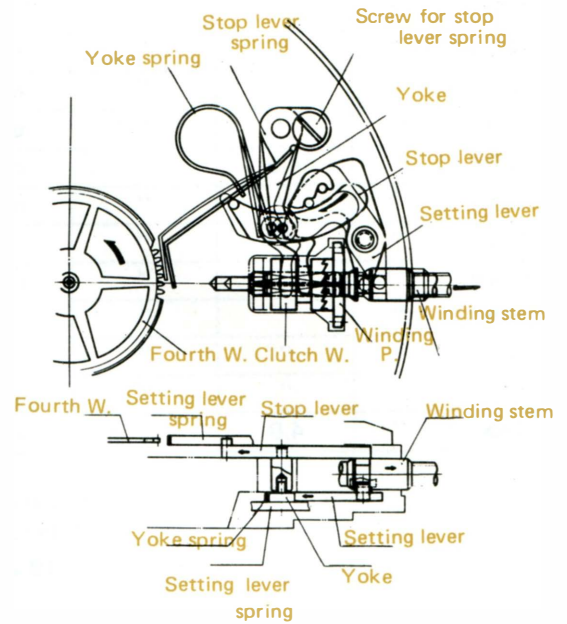

Fig. 2
### (2) Second hand stopping device (Fig. 2).